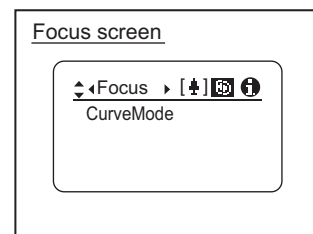

Fig1-8
6. Focus screen *2 [Icon] (See Fig. 1-8 below)